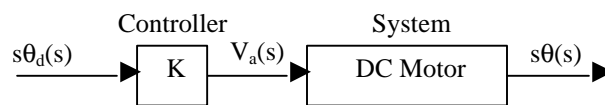

Figure 1: Open Loop Motor Speed Control Diagram
Open loop control is depicted in Figure 1 where it is noted that the controller has knowledge of only the desired input and thus acts as a system gain that modifies the system such that the output can be made equal to the input.
Open loop control will be implemented through the approach shown in Figure 1 and discussed in the prelab.
2. Add analog signal collection to the VI for motor velocity measurements as well as the open loop control approach of Figure 1 that varies the PWM duty cycle. There are many different ways of implementing this, so it may be helpful to look through the various examples in LabVIEW as well as chapters 6 and 7 of the LabVIEW Data Acquisition Basics Manual.